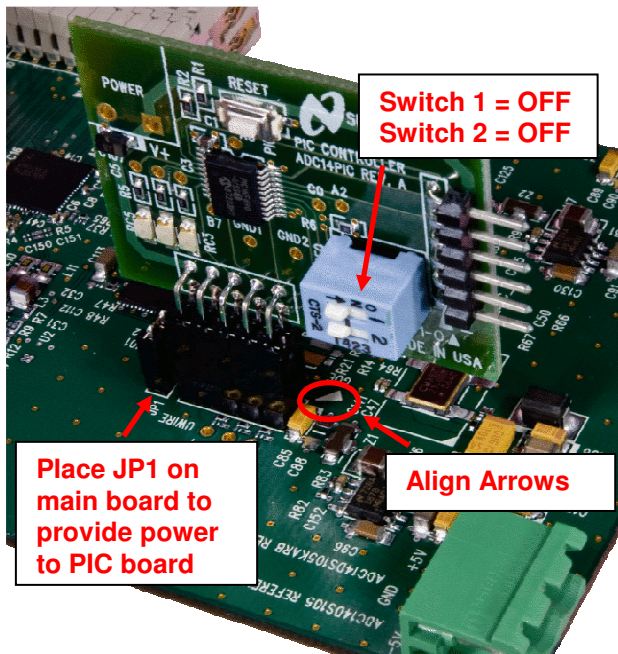

Figure 5. PIC microcontroller Board Connection and Configuration
3. Plug the PIC microcontroller board onto the dual-row header labeled “UWIRE” as shown in Figure 5. Align the arrows on the two boards to ensure proper orientation. JP1 should have a jumper installed on the main board to provide power to the PIC microcontroller board. Lastly, flip the switches on the PIC microcontroller board to the following positions: Switch 1 = OFF, Switch 2 = OFF.